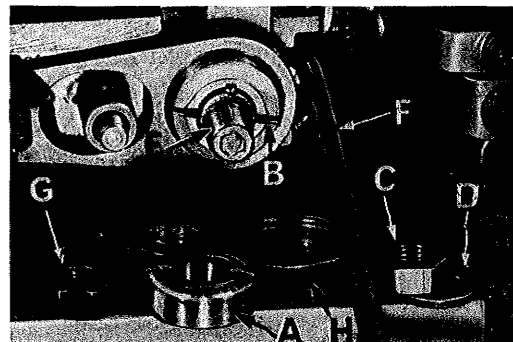

Fig. 15
If eccentrics are unusually tight fitting, in addition to removing nut (C, Fig. 15) and washer (D) from shaft (E), it may be helpful to remove nut (G) and feed driving connection (H). Then continue as originally suggested.